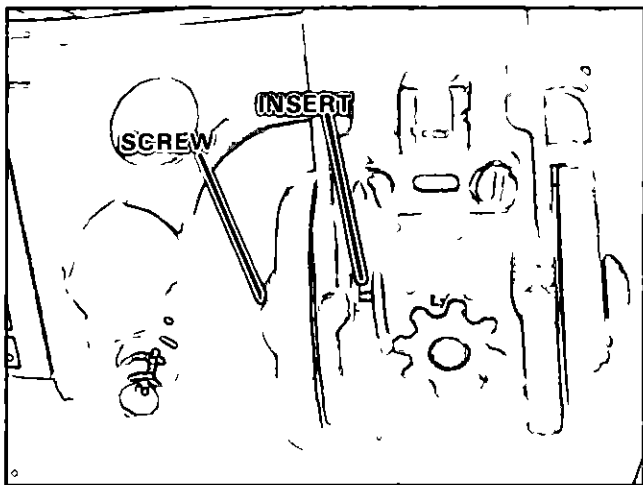

Figure 3. Tapping Insert to Free Handle.
- D Tap head of screw to drive insert far enough toward gears to remove steering handle from bracket Figure 3